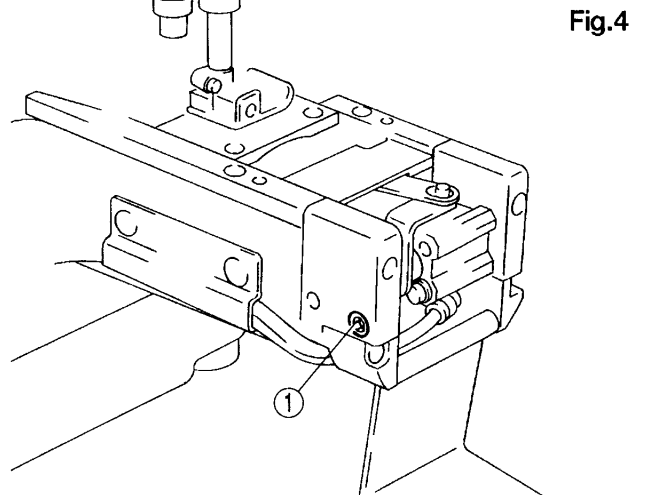

Fig.6
Screw ④ of bracket ③ should contact stopper ② (see Fig.6) when the air cylinder protrudes. To make this adjustment, loosen screw ① (see Fig.4) and then turn stopper ② in the direction of the arrow (see Fig.5).